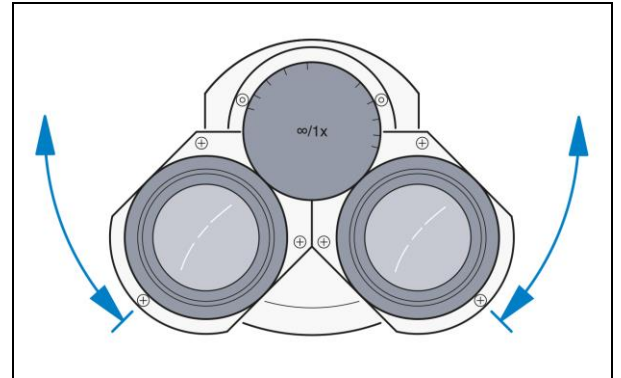

Fig. 4-1 Setting the inter-pupillary distance on the binocular tube
- Adjust the individual inter-pupillary distance by symmetrically swiveling the two eyepiece tubes towards each other (Fig. 4-1).